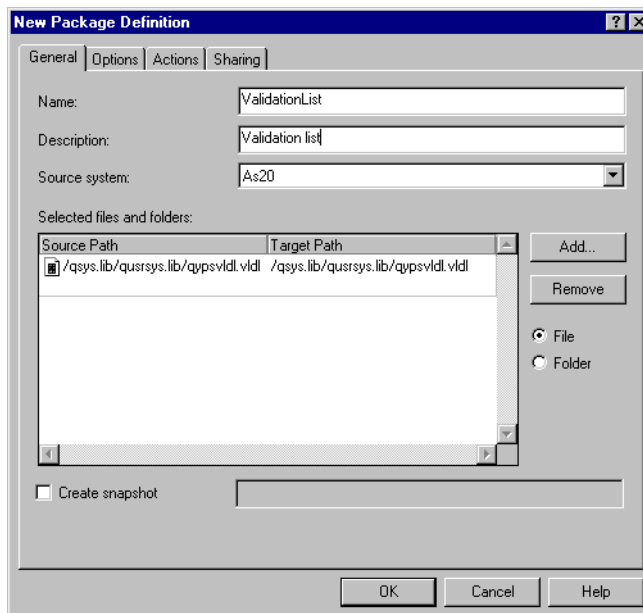

Figure 174. Package definition (general)
3. In the New Package Definition window, specify the validation list file of the central system (in this scenario, we use AS20). Your specified file name is /QSYS.lib/QUSRSYS.lib/QYPSVLDL.VLDL as shown in Figure 174.